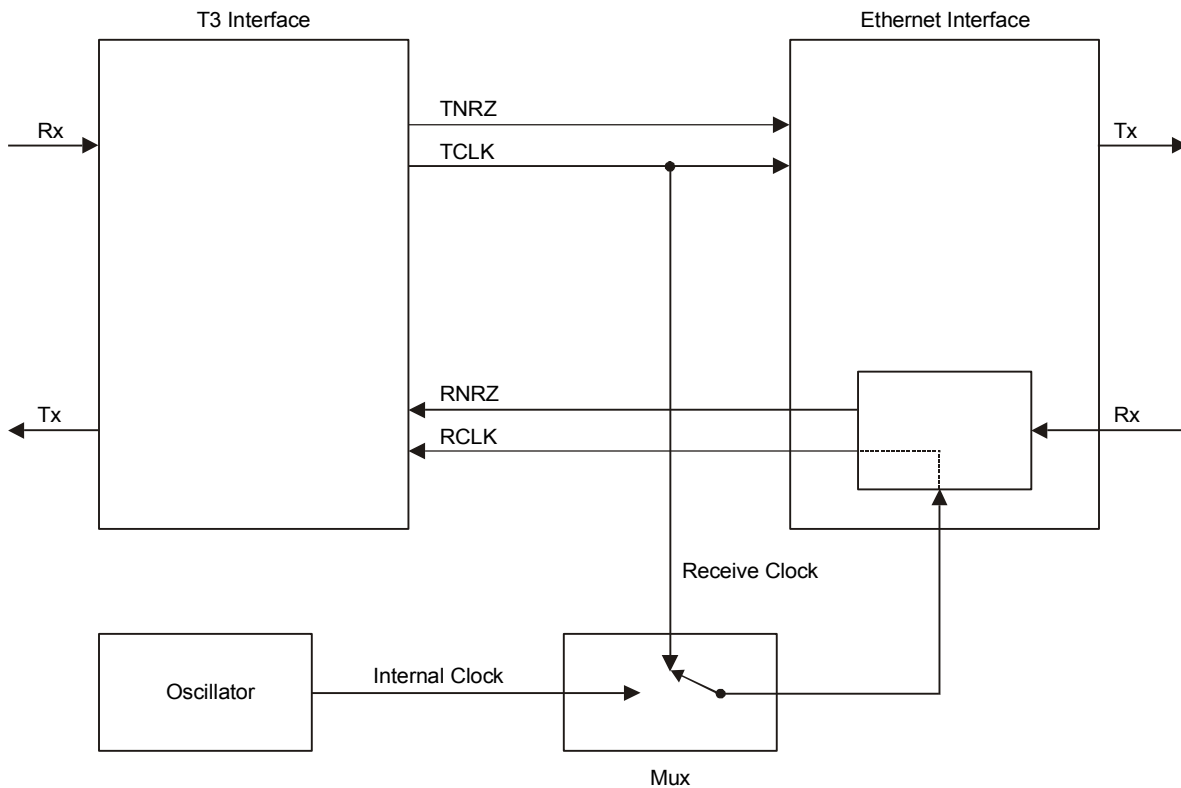

Figure 1-4. Functional Diagram
Figure 1-4 illustrates the MT1103A and MT1103A-DC functional diagram.
*Figure 1-4* shows flow of the clock signals in the MT1103A and MT1103A-DC unit. Two timing modes are supported: